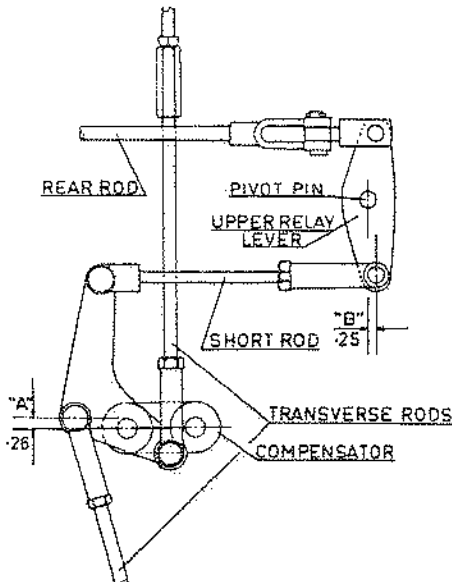

FIG1 COMPENSATOR ADJUSTMENT G-6061
The check valve is a disc type (Fig. 1) which contains a spring loaded disc which seats against air inlet in one end of an inner chamber. Air flow from the compressor moves the check valve from its seat and the flow is unobstructed. Flow in the reverse direction is prevented by the seating of the disc, which is caused by the action of the spring and assisted by the air pressure.
Clean all parts in cleaning solvent. Inspect disc valve and seat for pitting or corrosion. Inspect body and cap nut for cracks or damage. Replace damaged parts. It is advisable to replace the two copper sealing gaskets (reference 1, Fig. 1) one on either side of the check valve seat.
2. Disconnect the right and left hand transverse rods at the compensator end (Fig. 1).
4. Now adjust the yoke ends of the transverse rods to obtain dimension "A" and adjust the short rod (Fig. 1) to obtain dimension "B".